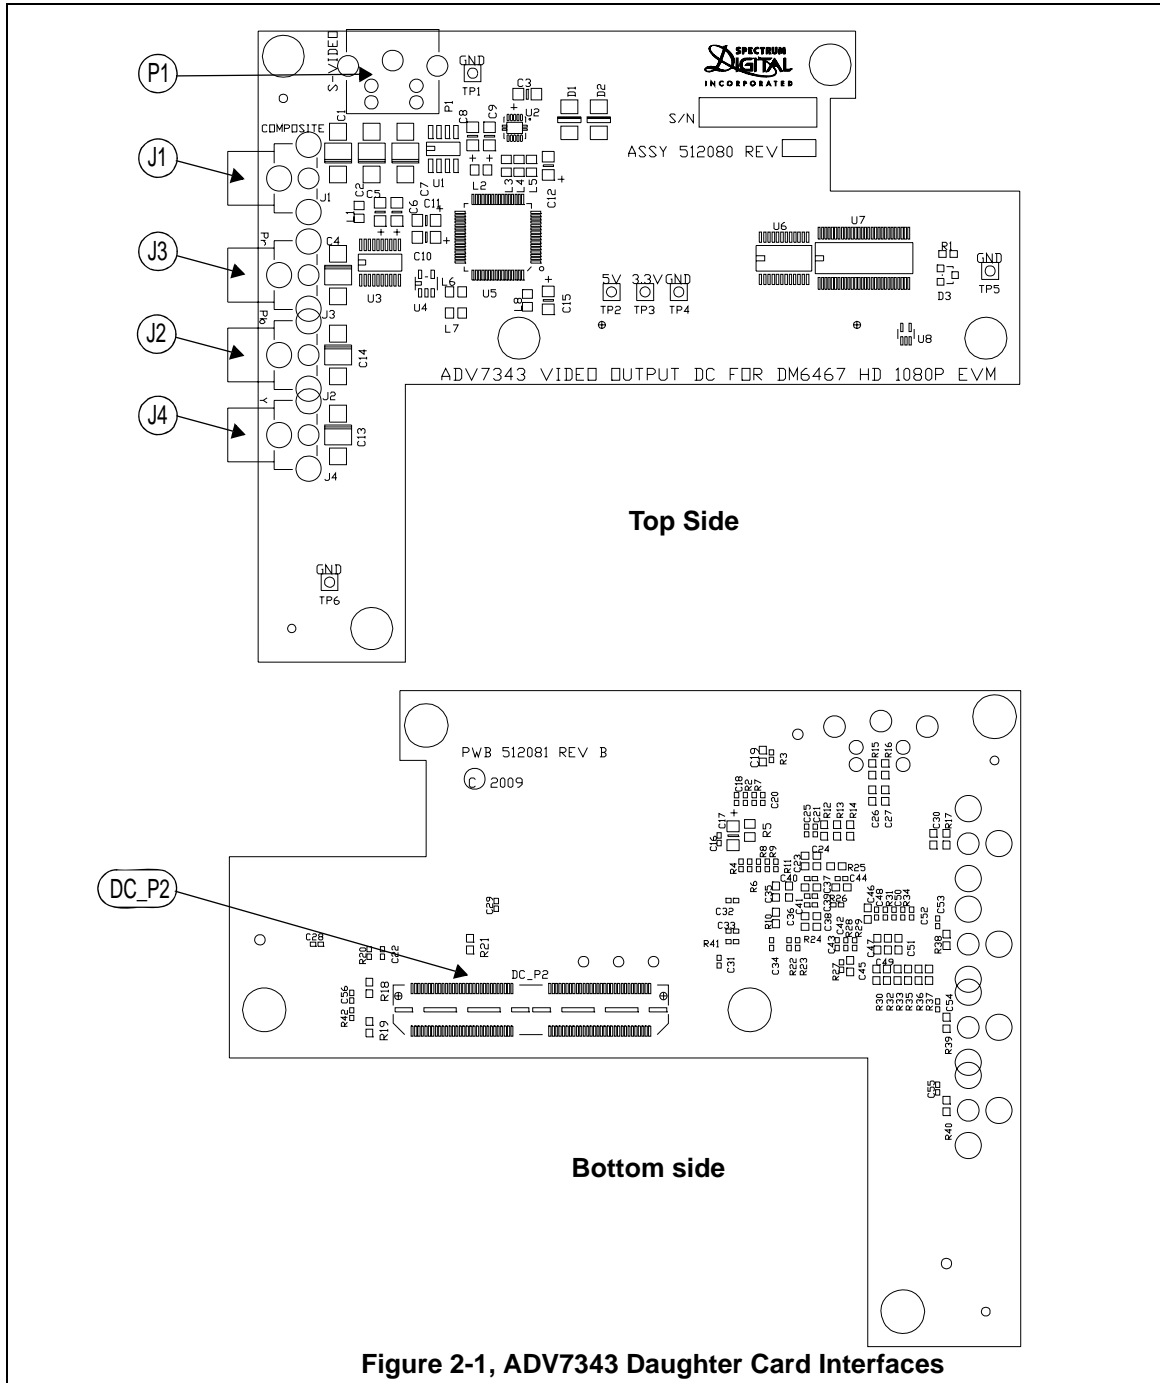

Figure 2-1, ADV7343 Daughter Card Interfaces
The ADV7343 Daughter Card is a 4.70 x 5.75 inch (119 x 146 mm.) ten (10) layer printed circuit board which is powered by an external +5 volt only power supply. Figure 2-1 shows the layout of both sides of the ADV7343 Daughter Card.